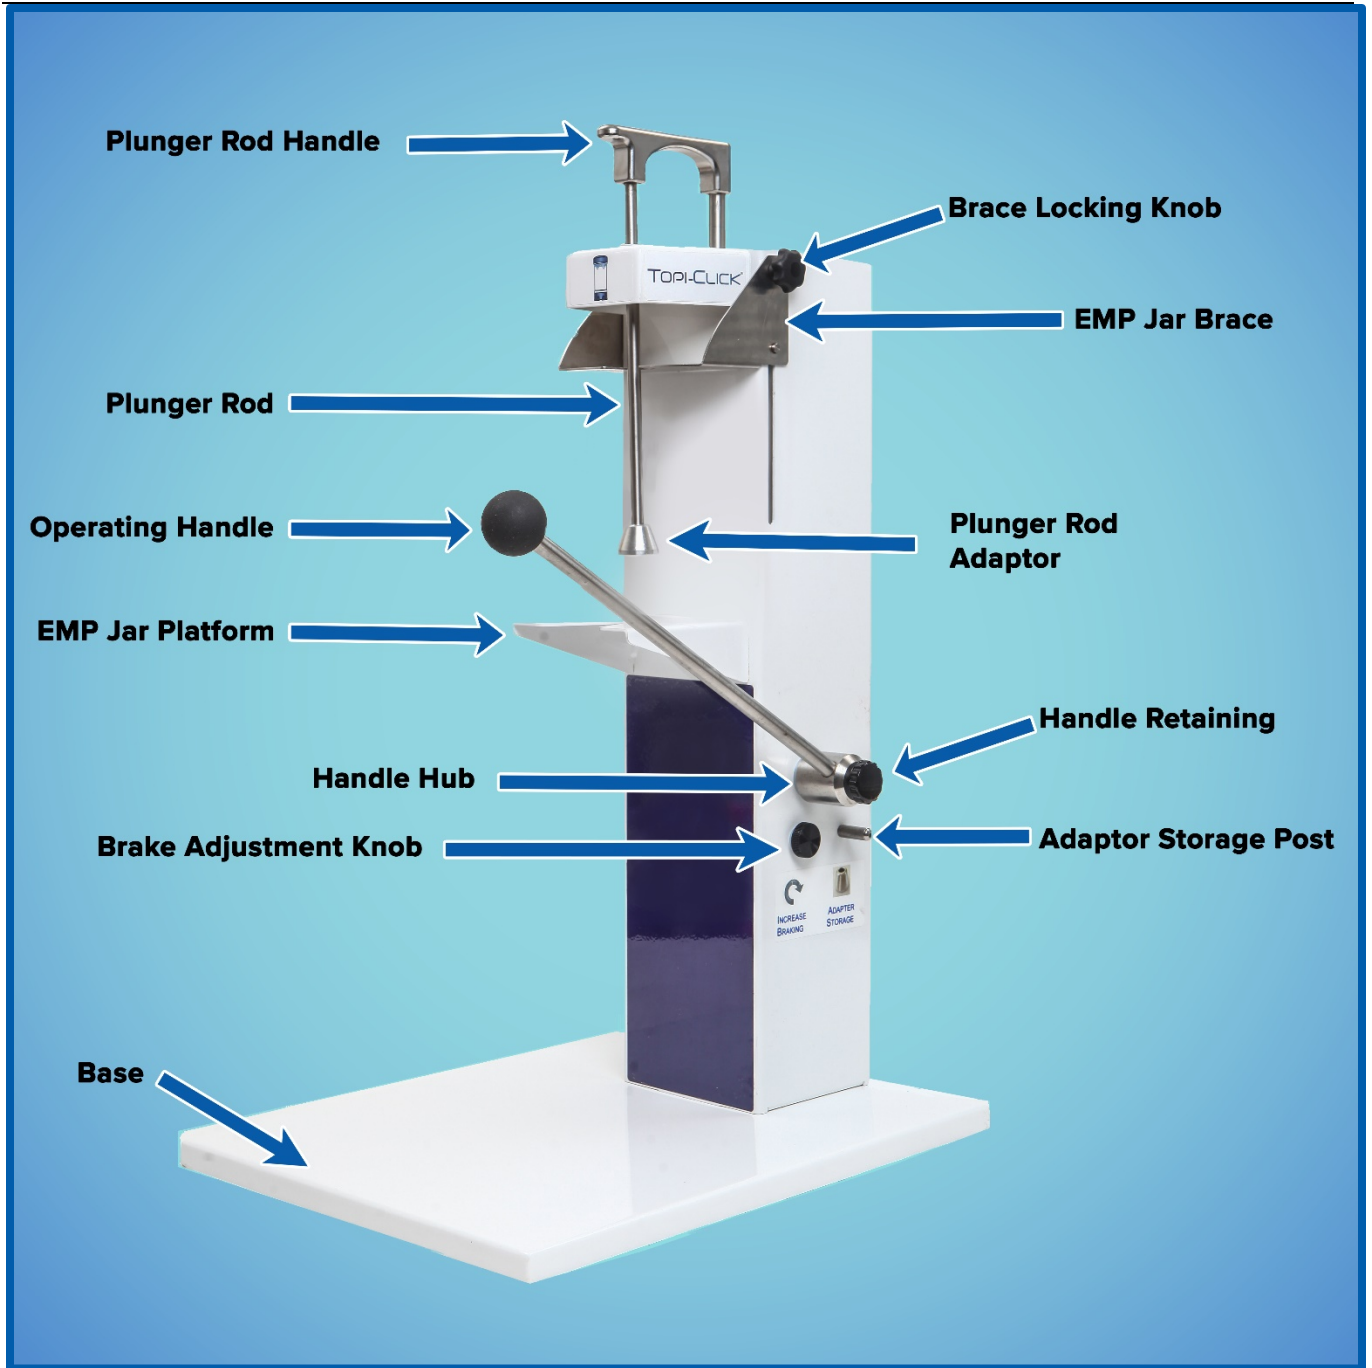

Figure 1: Topi-Filler™ Filling Station
- 4.2 Figure 1: Topi-Filler™ Filling Station
- 9.1 Set-Up: Topi-Filler™ Filling Station (see *Figure 1*)